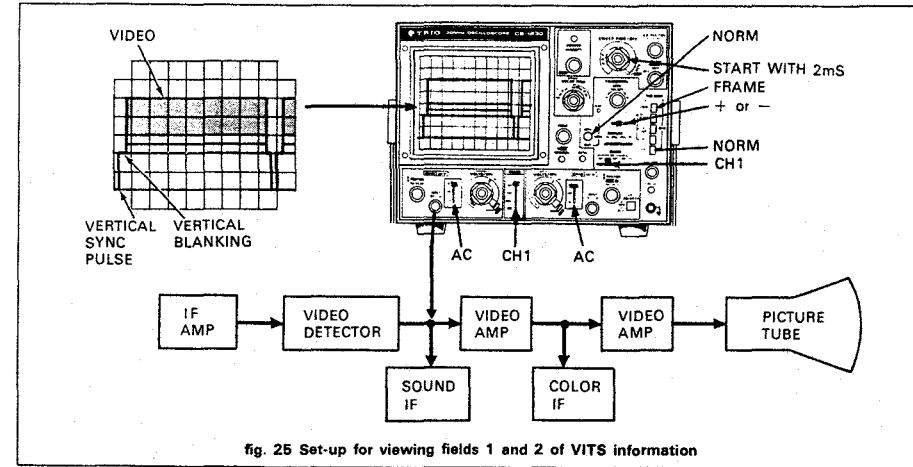

Fig. 25 Set-up for viewing fields 1 and 2 of VITS information
With dual-trace operation, the signal information on each blanking pulse can be viewed separately without overlapping. Fig. 25 indicates the oscilloscope control setting for viewing the alternate VITS.
With dual-trace oscilloscope operation, the signal information on each vertical blanking interval can be viewed separately without trace overlapping, although the information alternates with each field. Fig. 25 indicates the oscilloscope control setting for viewing the alternate vertical blanking intervals.
- The control settings of Fig. 25 are these required to obtain a 2-field vertical display on CH1.